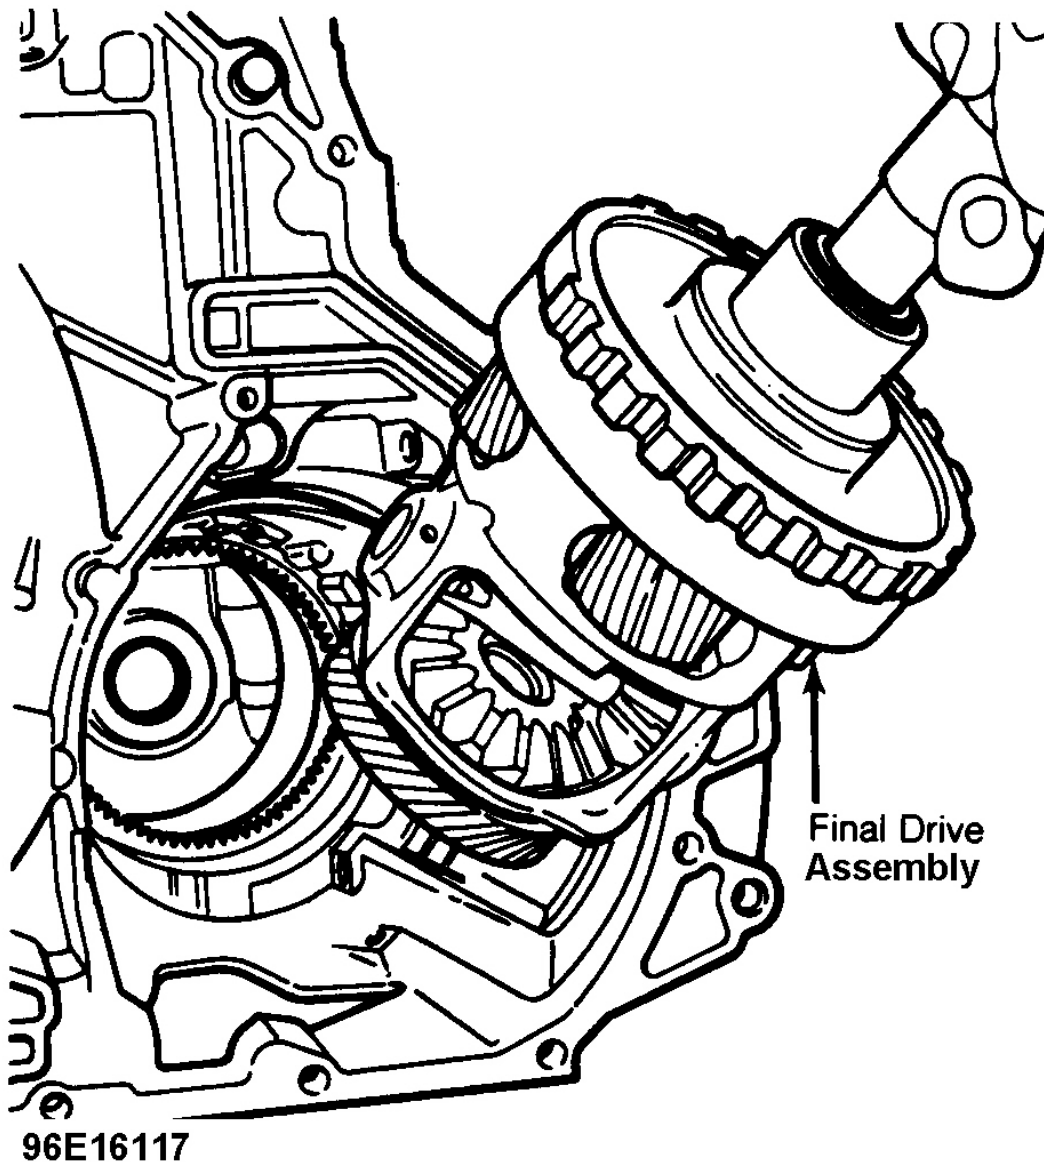

Fig. 11: Removing Final Drive Assembly
22. Remove final drive assembly snap ring from case using a screwdriver inserted through side of case. Lift out final drive assembly using output shaft. See **Fig. 11**.